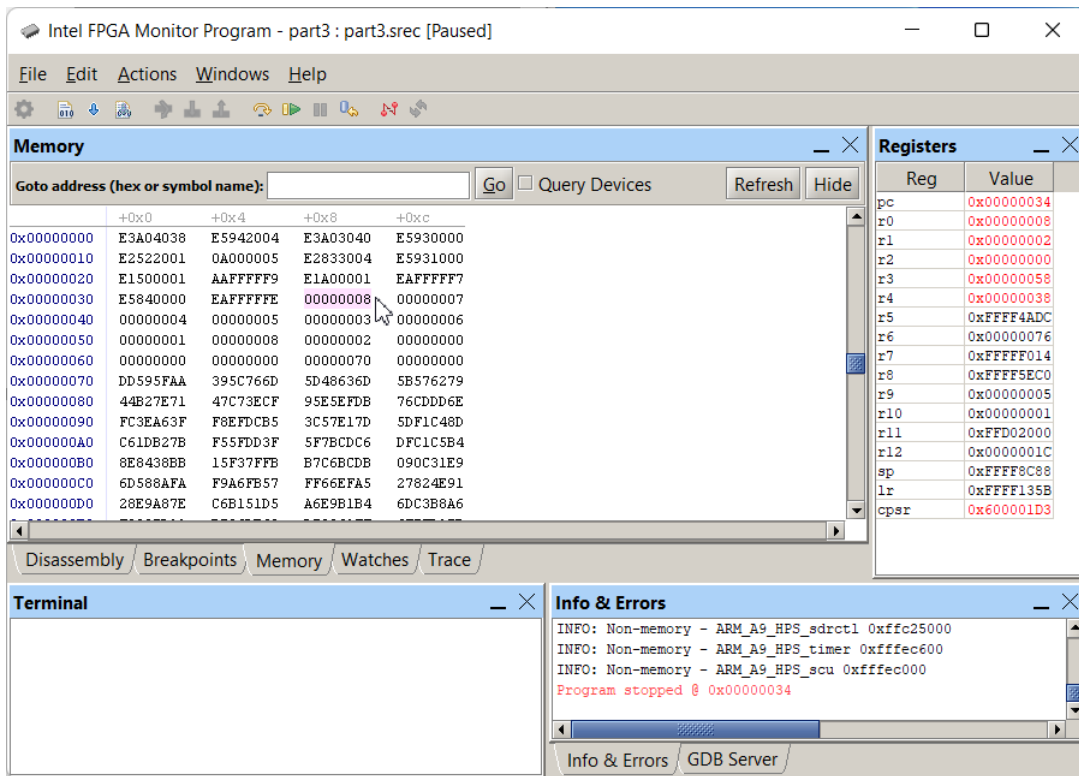

Figure 11: Displaying the result in the memory tab.
4. Execute the program (). When the code is running, you will not be able to see any changes (such as the contents of registers or memory locations) in the display for the Monitor Program, because it does not communicate with the ARM processor while code is being executed. But, if you pause the program then the Monitor Program window will be updated. Pause the program using the icon  and observe that the processor stops within the endless loop **END: B END**. Note that the largest number found in the sample list is 8 as indicated by the contents of register R0. This result is also stored in memory at the label RESULT. The address of the label RESULT for this program is 0x00000038. Use the Monitor Program's Memory tab, as illustrated in Figure 11, to verify that the resulting value 8 is stored in the correct location.